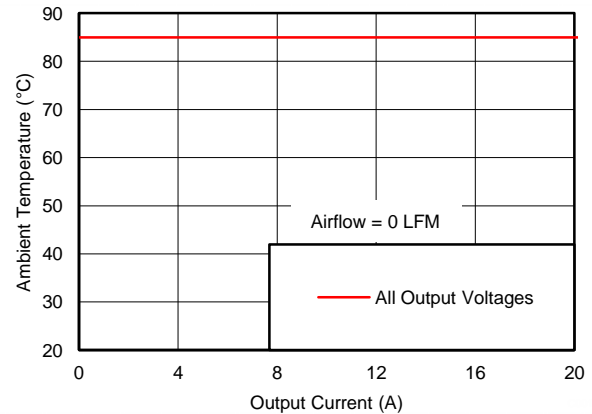

Figure 9. Safe Operating Area (0 LFM)
- (2) The temperature derating curves represent the conditions at which internal components are at or below the manufacturer's maximum operating temperatures. Derating limits apply to devices soldered directly to a 100 mm × 100 mm six-layer PCB with 1 oz. copper. Applies to Figure 9.